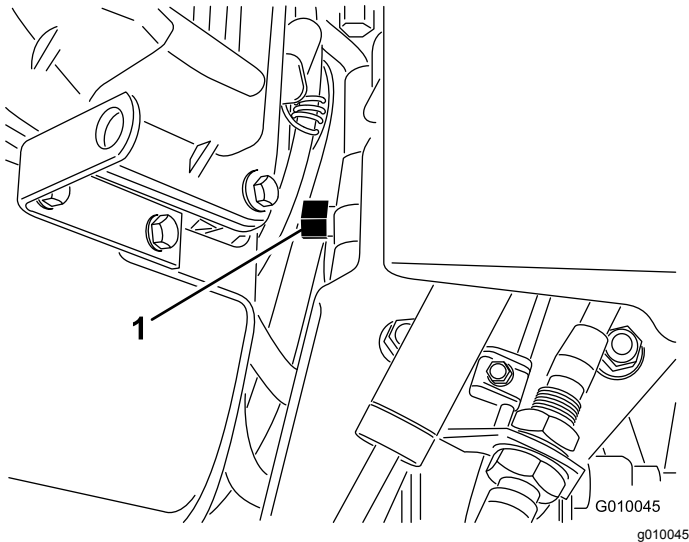

Figure 31
2. Locate the bypass valve between the engine and hydrostatic pump (Figure 31).
3. Using a 5/8 inch wrench, rotate the bypass valve counterclockwise 1 turn. This allows the hydraulic fluid to bypass the pump enabling the wheels to turn (Figure 31).
5. To operate the machine again, rotate the bypass valve clockwise 1 turn (Figure 31).